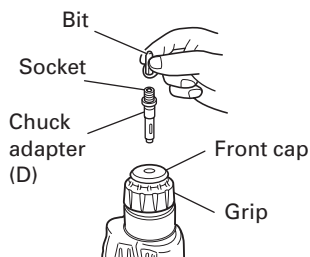

Fig. 11
4. When driving machine screws (Fig. 11)